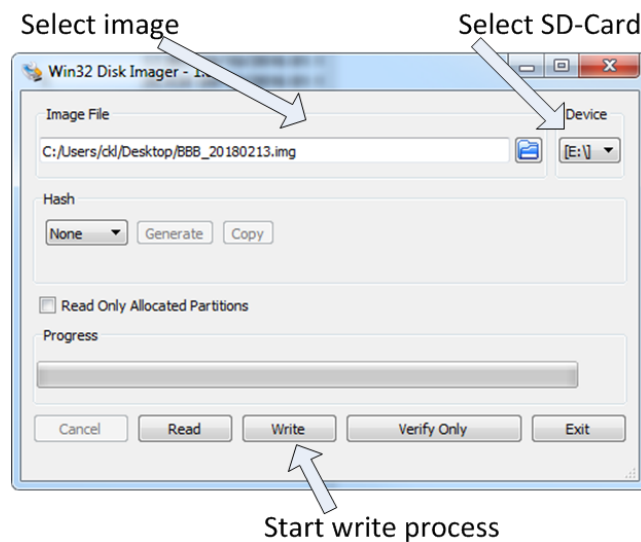

Figure 12: GUI of Win32DiskImager
3. Writing the image to the micro-SD card using the tool Win32DiskImager or similar. This tool can be downloaded from following location: <https://sourceforge.net/projects/win32diskimager/files/latest/download?source=navbar>. The program settings can be found in Figure 12.